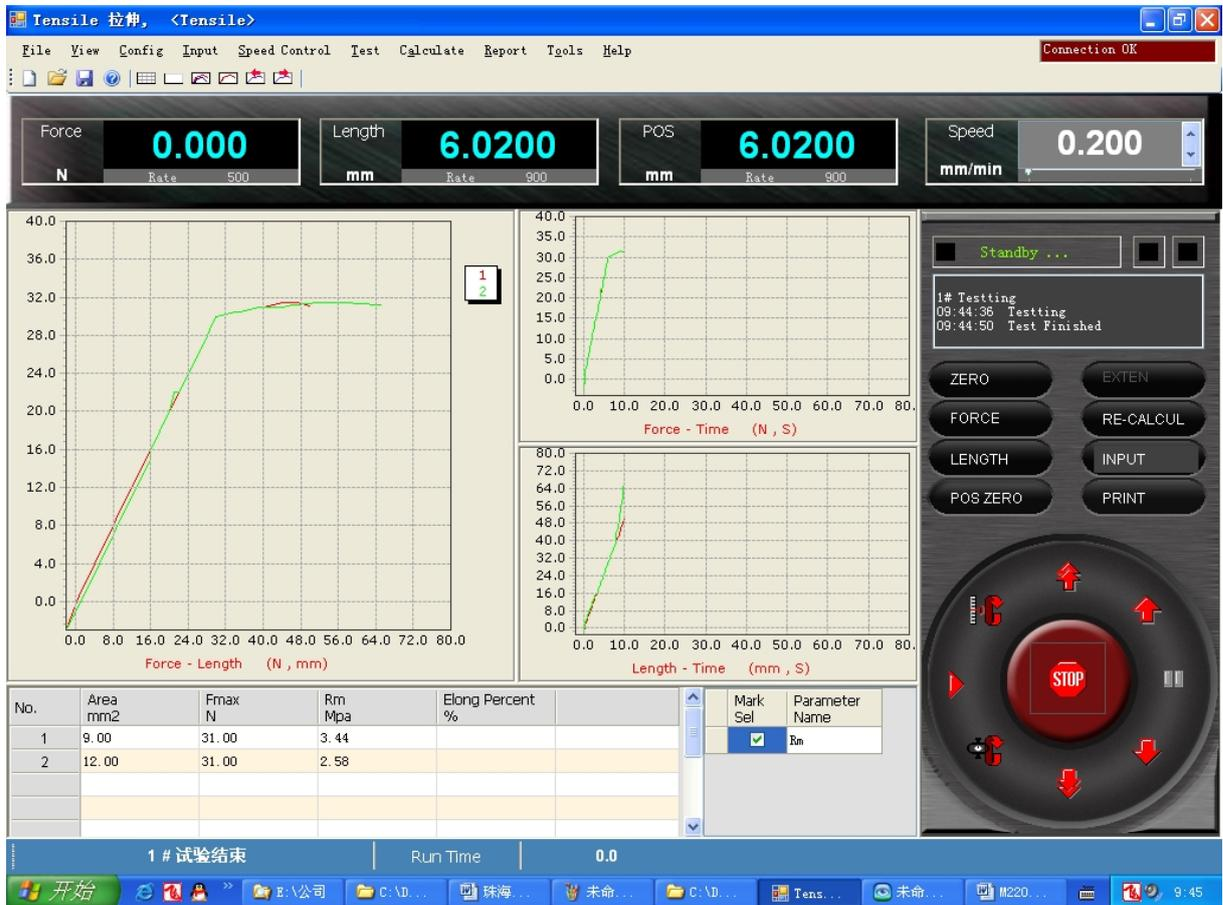

Figure 4-4a
- ① curve(1), curve 1 show / hide: Click the menu item on the left of the selection to show/hide curve 1, shown in Figure 4-4a;
- ② curve(2), curve 2 show / hide: Click the menu item on the left of the selection to show/hide curve 2, shown in Figure 4-4a;
- ③ ④ results grid(R), to show/hide results grid ;
- ⑤ first curve (i), select first curve;
- ⑥ next curve (i), select next curve;
- ① Main form can be configured for no curve, a curve, two curves (see Figure 4-4a);
- ② each graph the X coordinate, Y coordinate choice of 13 types, there are 169 kinds of theoretical curve (see graph configuration form);
- ③ curve can be configured as a single curve, all curves display or display; single curve in the menu or shortcut keys with the "first curve" display first specimen curve, with the "next curve" display next specimen curve, with "previous curve" display the previous specimen curve, with the "last curve" display last specimen curve;
- ④ Curves can config to single curve or two curves, when the curve shows (curve 1) parameters can be displayed in label; parameter type must be marked with the same type of axis to display;
- ⑤ curve zoom in; use the mouse cursor to the upper left corner, press and hold the left mouse button and drag the right remains to be zoomed-in area until it reaches the lower right corner, release the button, the selected area was a rectangular box amplification; suppressed to keep the left button drag the curve to restore the original state;
- ⑥ curve background grid hide/display; use the menu item or shortcut key "hidden curve grid", "display the curve grid" to show or hide the grid graph.